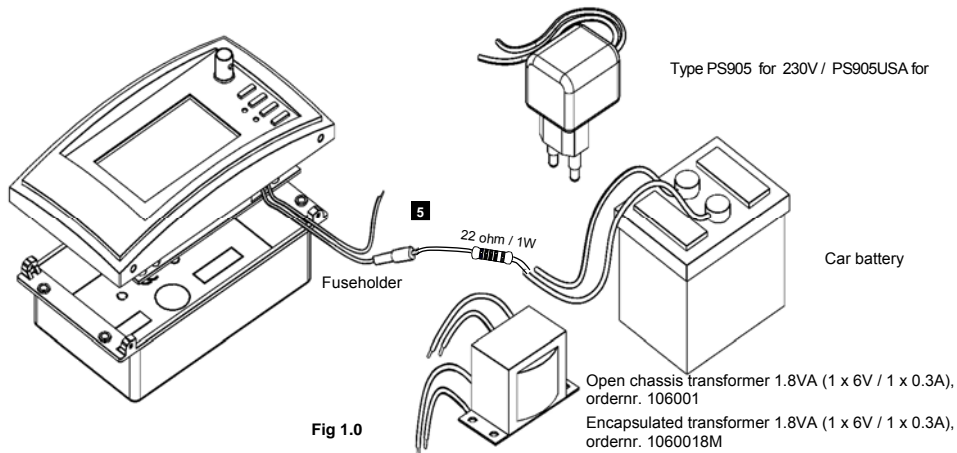

Fig 1.0
- Adapter: : Type PS905 for 230V / PS905USA for 110V (Fig 1.0).